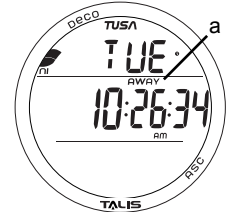

Fig. 7B - DEFAULT TIME
Alternate Time, which is set by Hour Differential, is the Time at a remote location (away). Upon arrival at the location, Alternate Time, identified by the AWAY icon (Fig. 7B a), can be selected to be the Watch Default Time.
- > Time of Day (hr:min:sec) with AM (or PM) icon if 12 Hour Format, no icon if 24 Hour; and AWAY icon (Fig. 7B a) if Alternate Time is selected to be the Default Time.